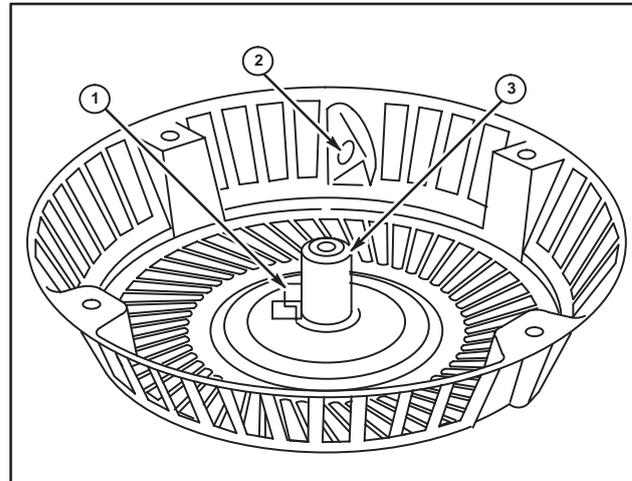

Fig. 36
4. Inspect starter housing for wear or sharp edges at rope eyelet (2), center pivot post (3), and inner spring anchor tab (1), Fig. 36.